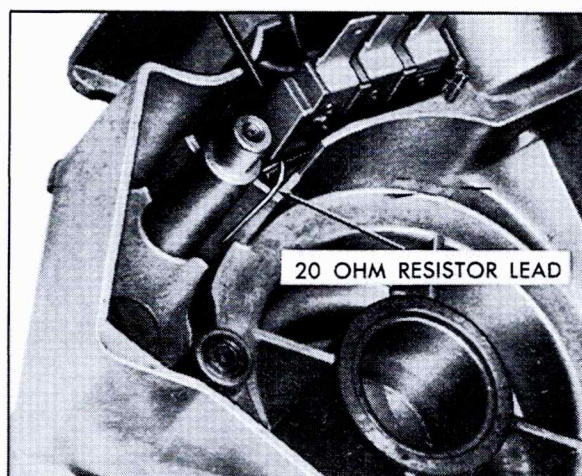

Fig. 12-24 Installing Terminal Board
1. Slide terminal board assembly into wiper housing, being careful to position terminal board resistor lead as shown in Fig. 12-24.